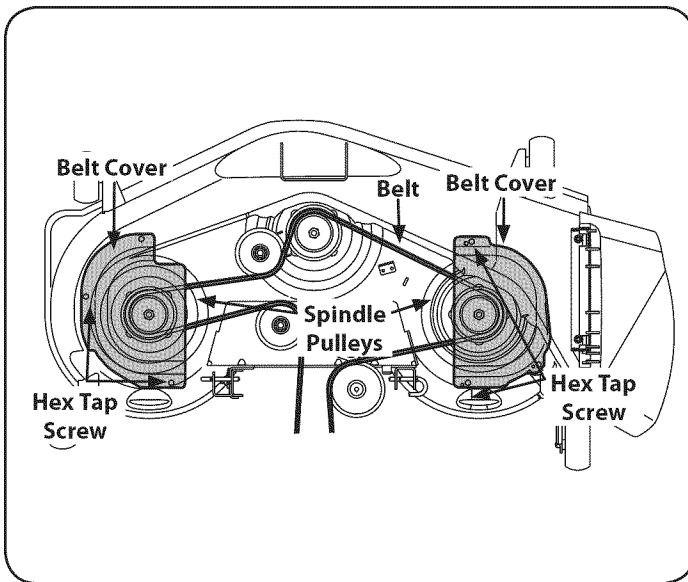

Figure 39
2. Remove the hex washer screws securing the belt covers to the deck and remove the belt from the spindle pulleys. Refer to Figure 39.
3. Install the new belt around the spindle pulleys as shown in Figure 39 and reinstall the belt covers.